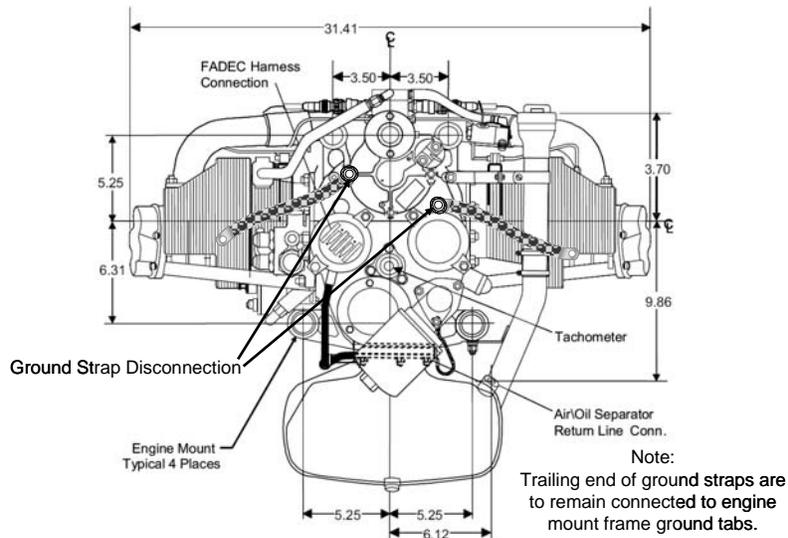

Figure 71-5 Engine Ground Strap Disconnection
16. Disconnect ground strap from the engine as shown in Figure 71-5. Do not disconnect strap from the engine mount frame grounding tab.